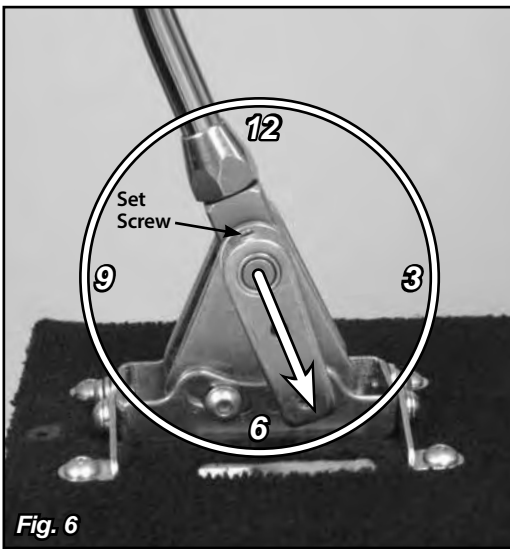

Fig. 6
Step 6: Make sure the shifter is in Park. Check the position of the quad lever. It should be pointing to about the 5:00 position. If it is not, loosen the set screw in the top of the quad lever with a 1/8" Allen wrench and slide the quad lever off of the shaft. Reposition it on the shaft at approximately the 5:00 position, and retighten the set screw. **Fig. 6**